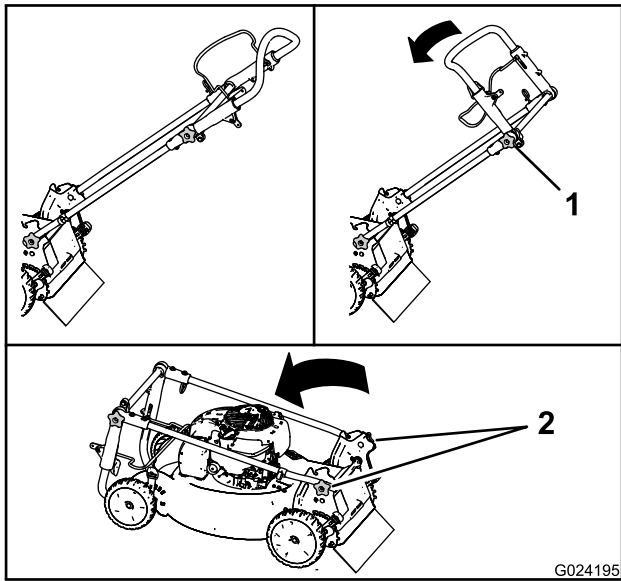

Figure 27
1. Loosen the upper handle knob (Figure 27).
2. Loosen the handle knobs until you can move the handle freely (Figure 27).
3. Move the handle forward as shown in Figure 27.